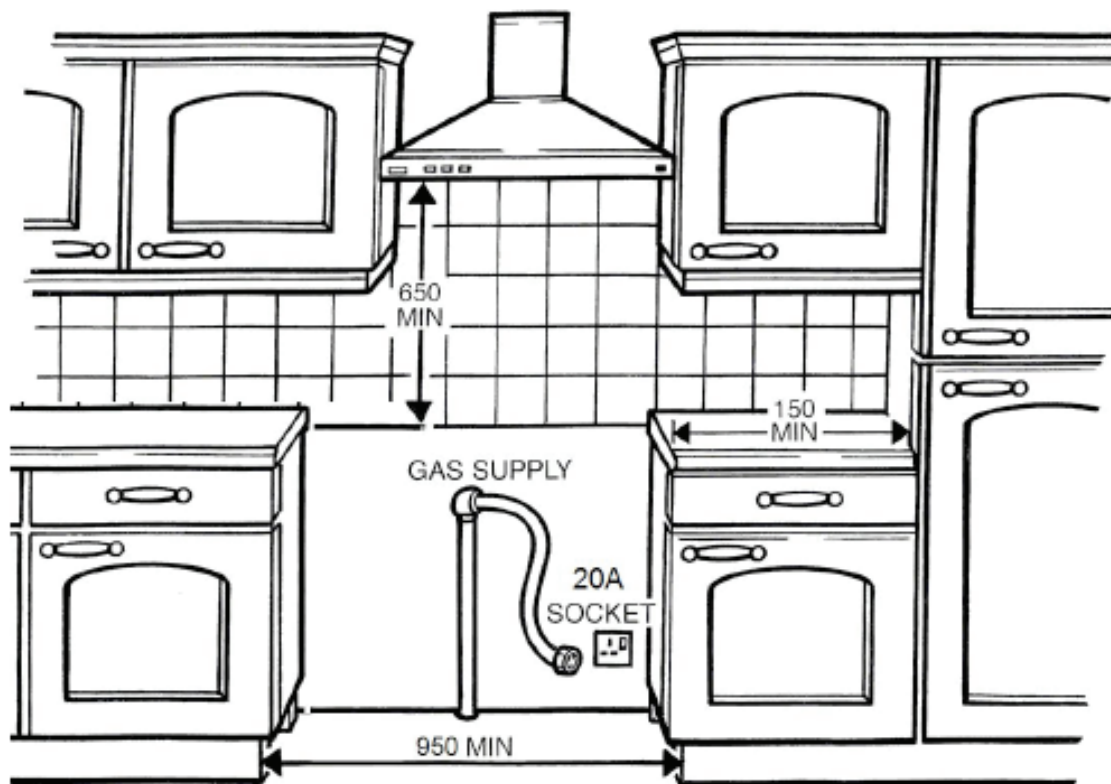

FIG. 2
- ▶ There should be an open space above the appliance to allow kitchen odours to disperse. A cooker hood may be installed to either absorb or extract the odours. The distance between the gas hob and the hood should not be less than 950mm. (Fig. 2).